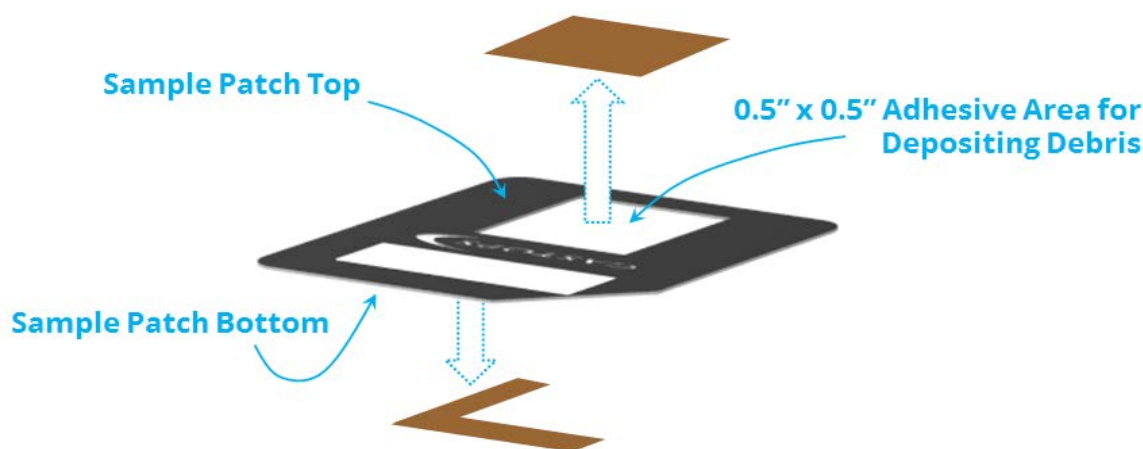

Figure 4-2: Sample Patch Liner Removal
4. Once the wear debris has been fully dried, take one of the Sample Patches provided with the instrument and peel/remove the protective liner from the top surface of the patch (as shown in Figure 4-2). This will expose the transparent adhesive used to retain the wear debris. Take all precautions to limit the amount of contamination (dust, dirt, etc.) that can now adhere itself to this exposed area.
3. Take the prepared Sample Patch (refer to Section 4.3) and ensure that the adhesive liner on the back of the Sample Patch has been removed (as shown in Figure 4-2). Position the Sample Patch, face-up, on the Sample Tray ensuring that the left and top edges of the Sample Patch are aligned with the recess on the Sample Tray.